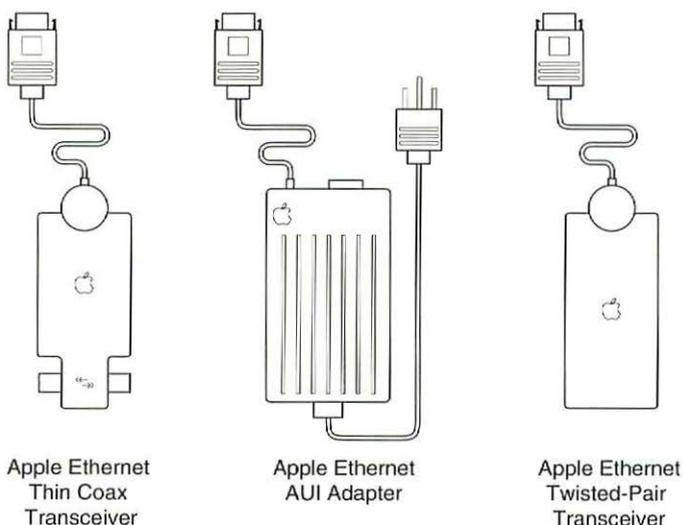

Figure 3. Ethernet Transceivers
1. Obtain an Ethernet transceiver and an Ethernet cable appropriate for the network's media type—thin, thick (AUI), or twisted pair (see Figure 3).